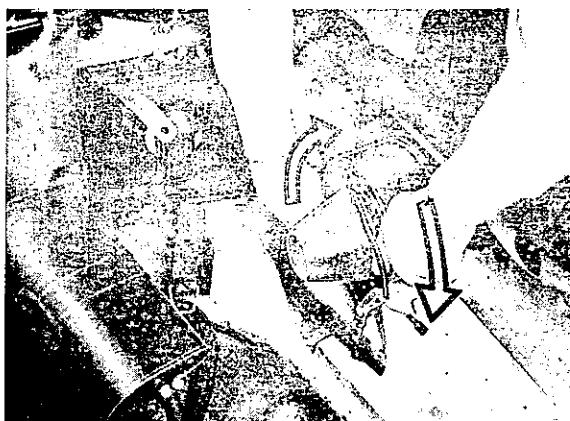

Fig. 13
3. Pull ventilating outlets of fan out of air duct with a light, rotating motion (refer to Fig. 13).